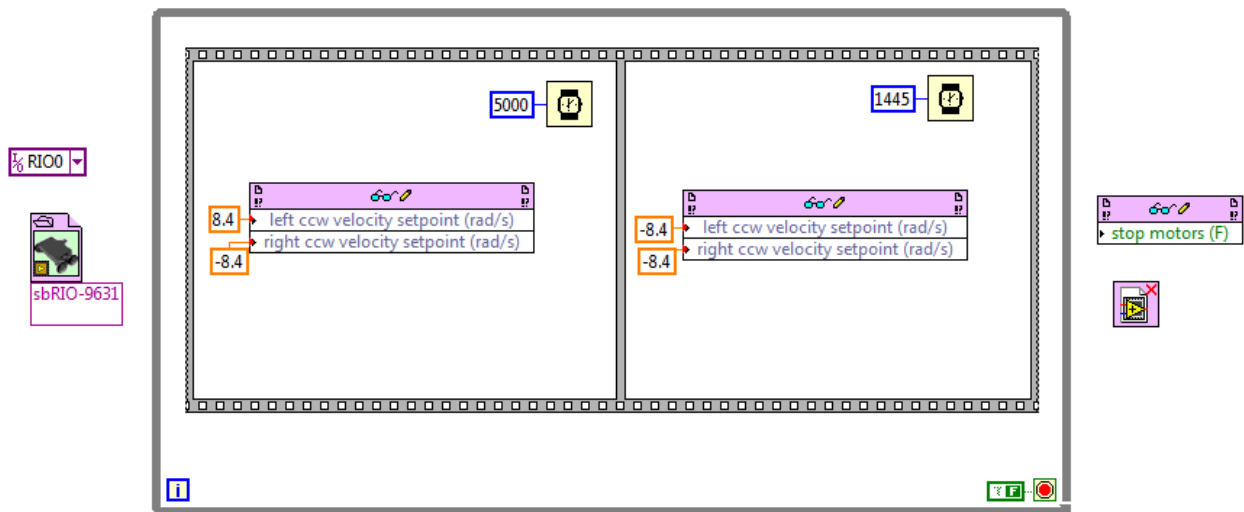

Figure 2.9
Step 7: We now need to add values to the read/write controls that control the motor velocity. The predetermined value for the velocity is 8.4 radians/second. In all you will need to create 4 constants and attach them to their specified input. Reference figure 2.9 for correct constant placement. Also note the polarity of the constants. This will determine if the motors are rotating clockwise or counter-clockwise.